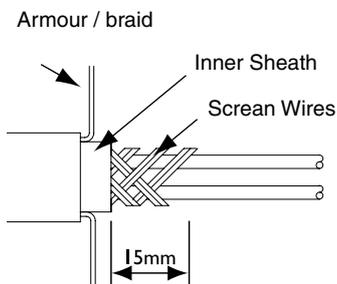

Fig. 1
- 2.2. Remove a further I 5mm of inner sheath (See Fig. 1).